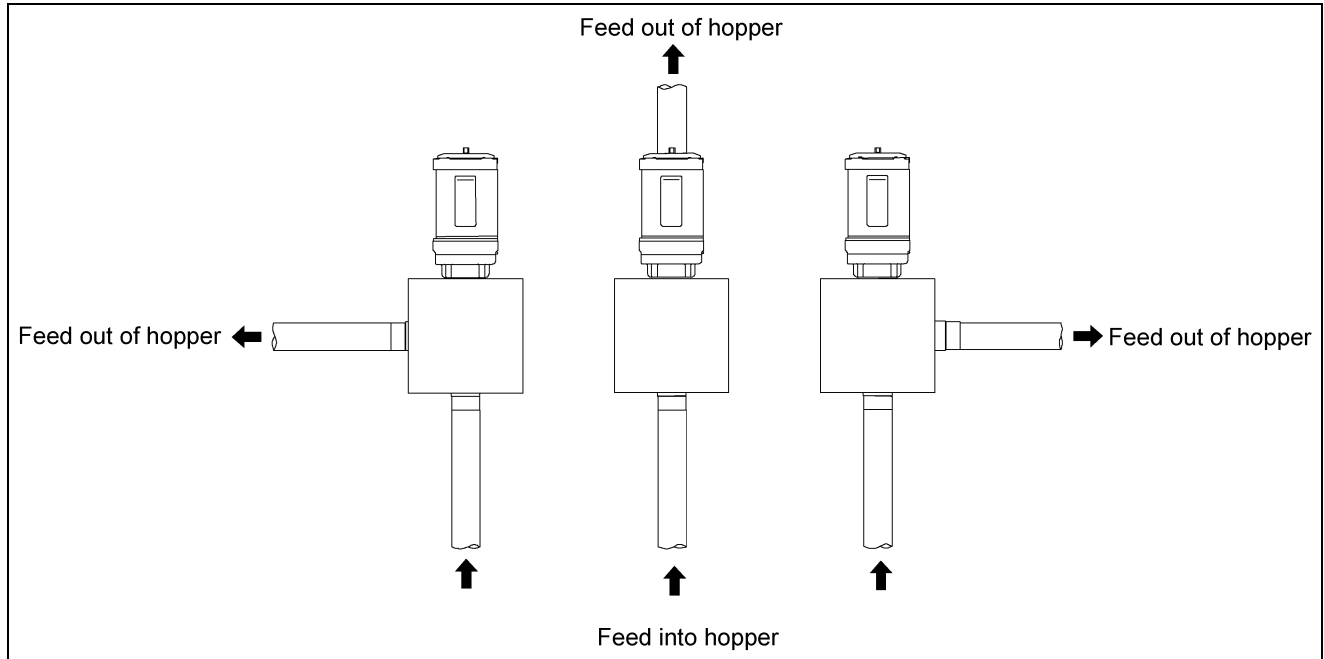

Figure 5Z Extension Mounting Directions
5. Remove the anchor assembly and the rear access panel from the bottom section of the extension hopper. Mount the bottom section to the top section with 1/4"-20 machine screws provided with the hopper. The bottom section may be mounted in three (3) various directions. (See Figure 5Z on Page 31.)